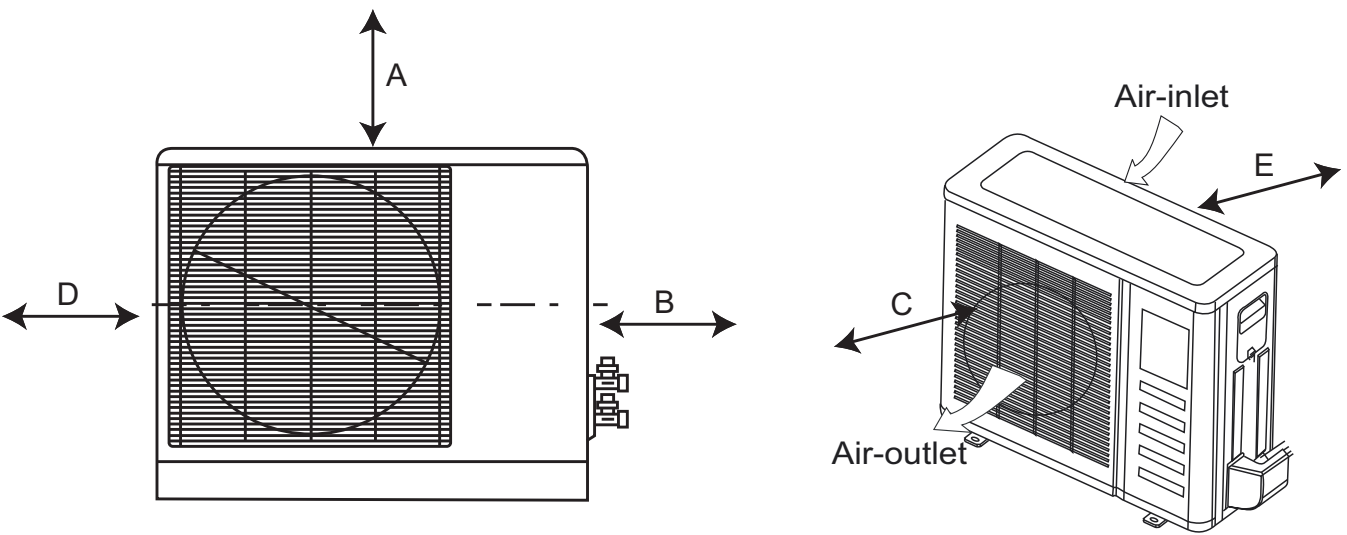

Fig. 5 – Outdoor Unit Clearance
- A location which provides appropriate clearances (see Fig. 5).